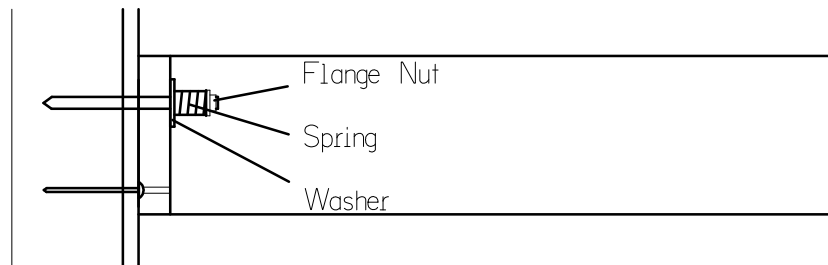

Figure 5
- > Keeping the front of the vanity supported, install a 1.5" washer, red spring, and 3/8" flange nut onto each hanger bolt in that order. Tighten the nut using a 9/16" wrench until the spring is completely compressed. Refer to figures 5 and 6